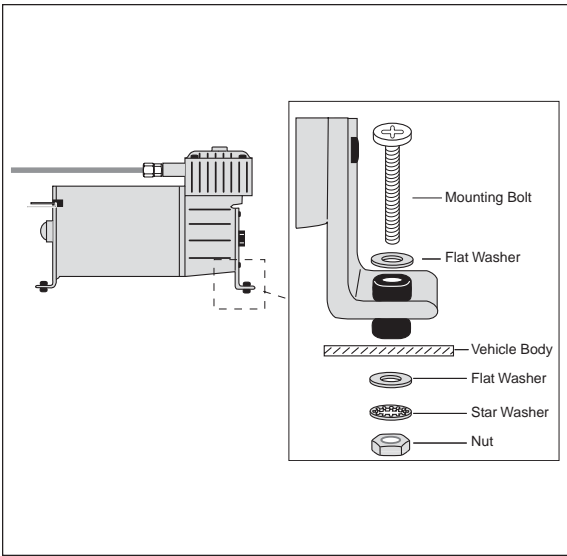

Figure 2
4. Use the supplied screws and nuts to mount the compressor (Figure 2).